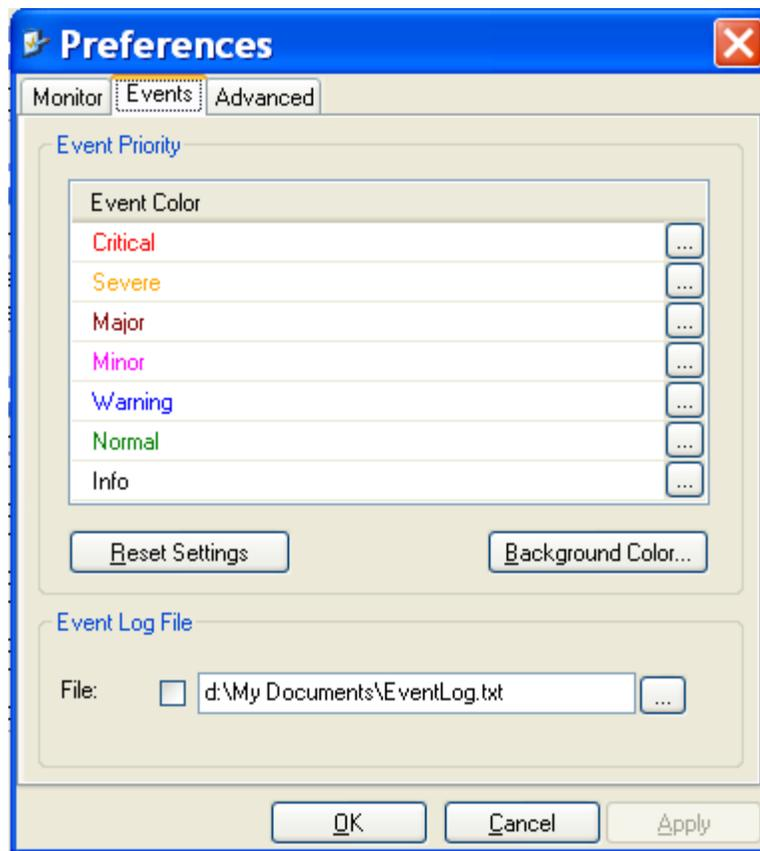

Figure 5-6. Preferences Dialog Box, Event Log Tab
2. Click the **Events** Tab (see *Figure 5-6*).
The Preferences dialog box appears (see *Figure 5-6*).